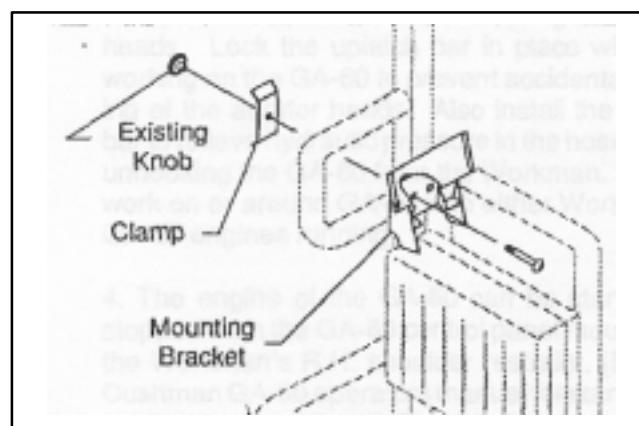

Figure 2
2. Mount the controller bracket to the R.H. shoulder restraint through the center hole on the control box bracket using a 3/8" x 1-1/4" carriage bolt (See Fig. 2)
3. Place the controller to the inside of the shoulder restraint and the clamp to the outside of the shoulder restraint. Assemble with plastic knob provided with the GA-60 controller. (See Fig. 2)